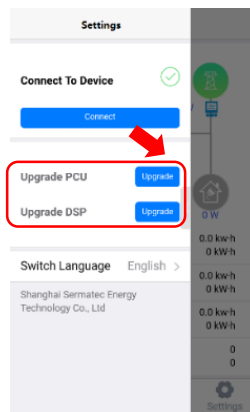
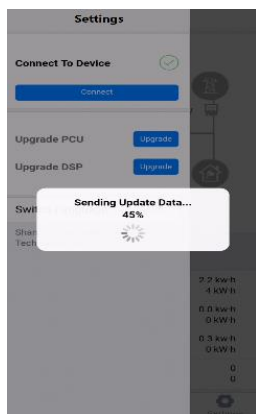

Figure 4-9
Figure 4-10
4.Tap "Upgrade" . Enter the confirmation password "sermatec2015" The software will be upgraded. (Figure 4-9, Figure 4-10, Figure 4-11)